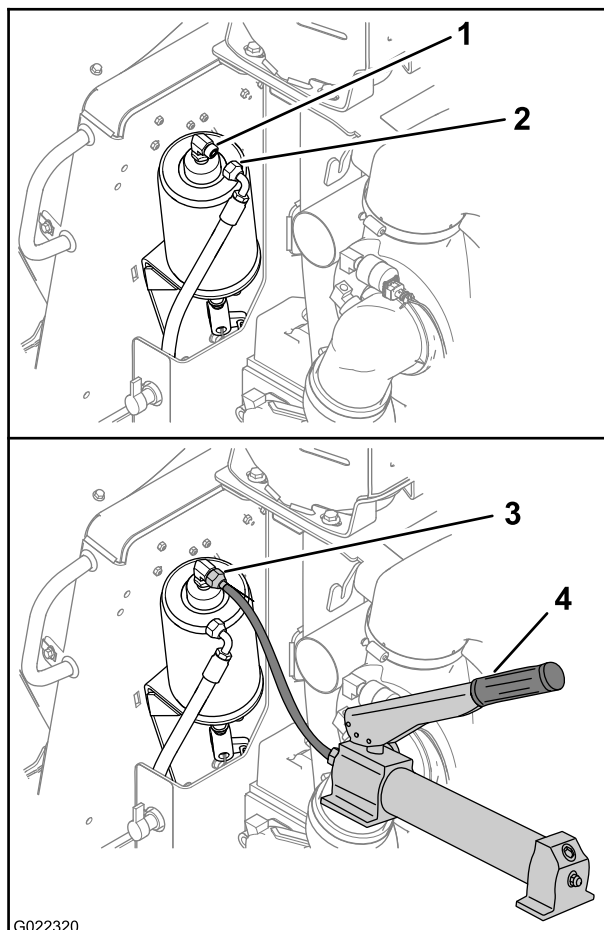

Figure 31
1. Disconnect the hydraulic hose from the parking brake cylinder as shown in Figure 31.
2. Connect a hydraulic-hand pump capable of producing 350 psi to the brake cylinder (Figure 31).